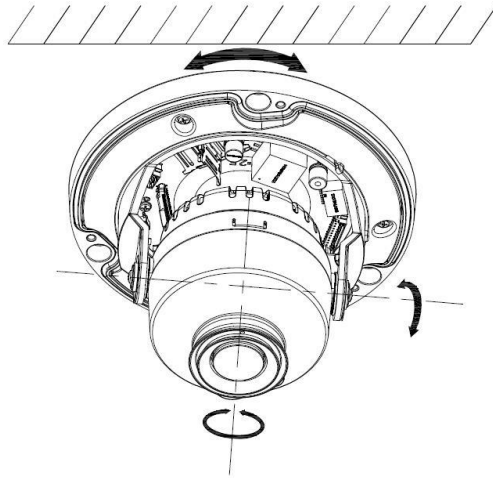
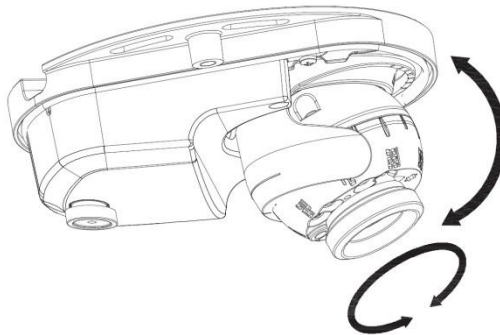

Figure 3-3
Figure 3-4
- Step 1** Find the mounting template sticker from the accessory pack and stick it to the mounting surface①.
- Step 2** Drill screw holes (and the cable outlet hole if it needs to go through the mounting surface) on the mounting surface as indicated on the mounting template, then insert expansion bolts② from the accessory pack in the screw holes.
- Step 3** Loosen the locking screws⑤ on the dome⑥ with the supplied wrench⑦ and take the dome⑥ off.
- Step 4** Adjust the location of the pedestal③ according to cable outlet requirement (top out or side out), then pull the cable out through mounting surface or the side cable tray. Align the screw holes on the pedestal③ to those on the mounting surface.
- For model A and model B, put in and fasten the supplied self-tapping screws④ to attach the device to the mounting surface.
- For model C, put the screw covers⑧ in the screw holes on the pedestal③, then put the supplied self-tapping screws④ through the screw covers⑧ and fasten them to attach the device to the mounting surface.
- Step 6** Connect the camera to power source and the HDAVR device, and the live view screen will be displayed. Aim the lens to the ideal angle and adjust the focus until you get clear image. See Figure 3-3 or Figure 3-4.